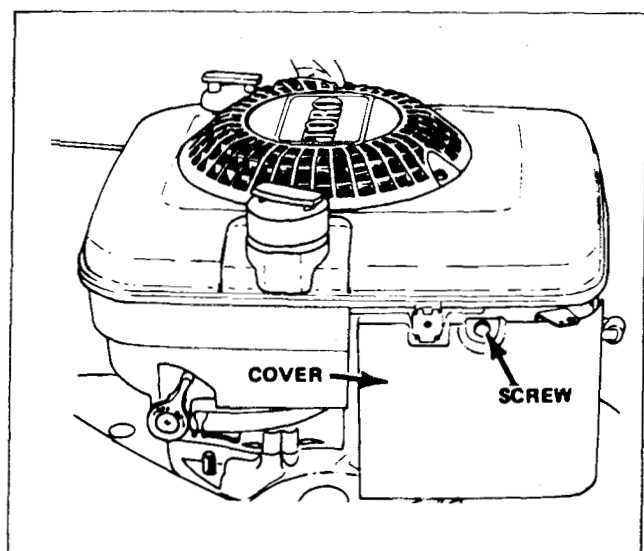

Figure 7
2. Remove the screw securing the air cleaner cover to the engine as shown in Figure 7. Lift off the air cleaner cover. Clean thoroughly.